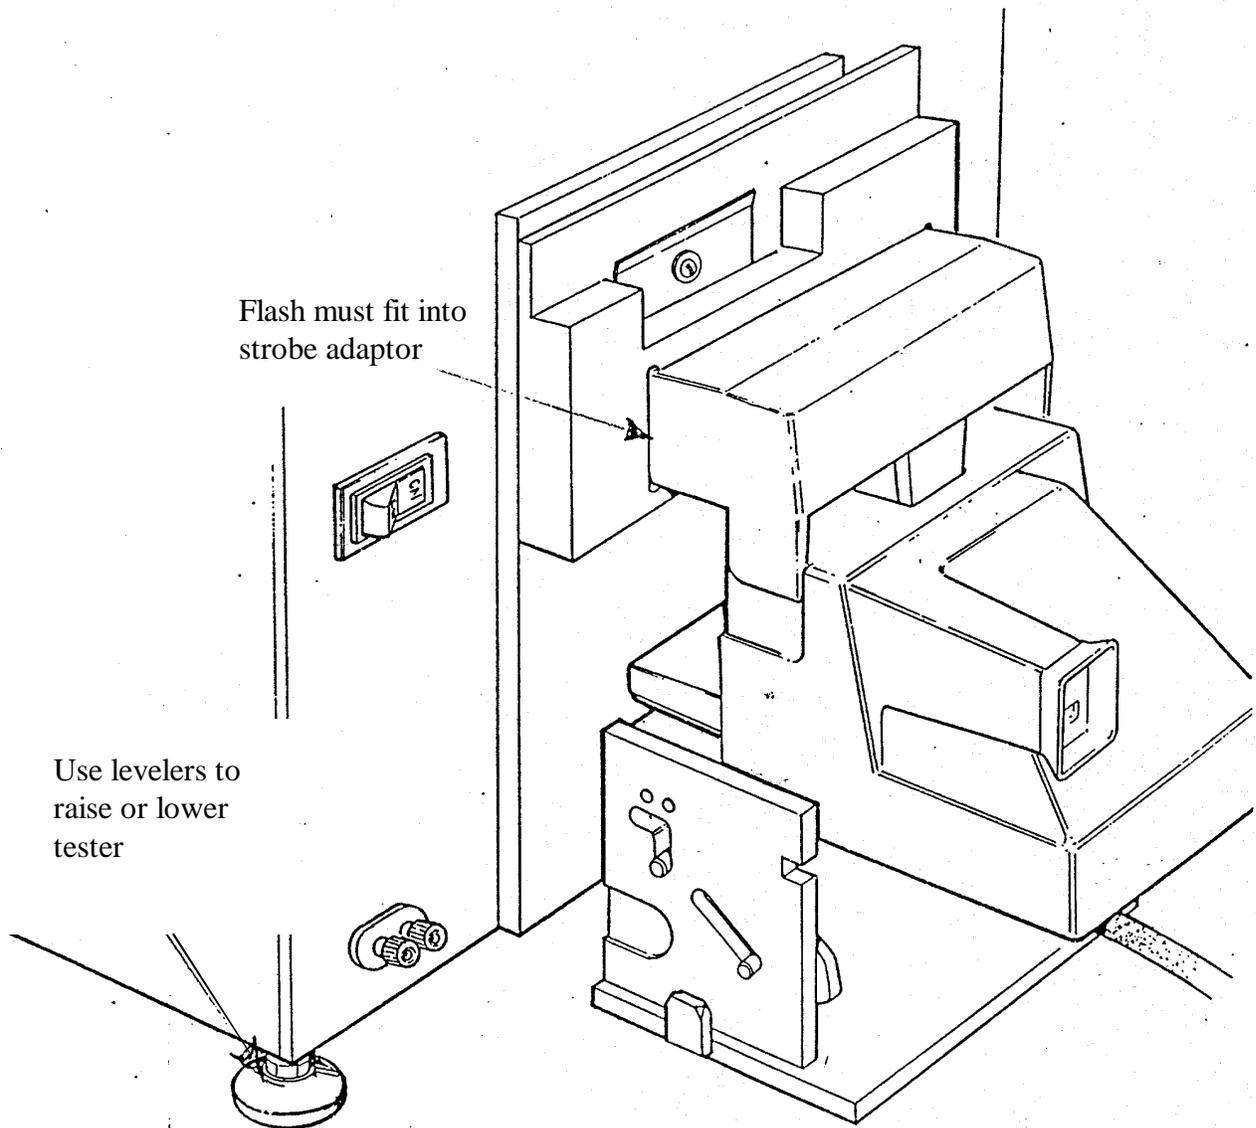

Fig. 3 Aligning Camera on Horn with Tester window
4. Set the horn with the mounted camera against the tester. Using the leveling legs, raise or lower the tester so that the electronic flash is aligned with and fits into the adapter window (Figure 3).